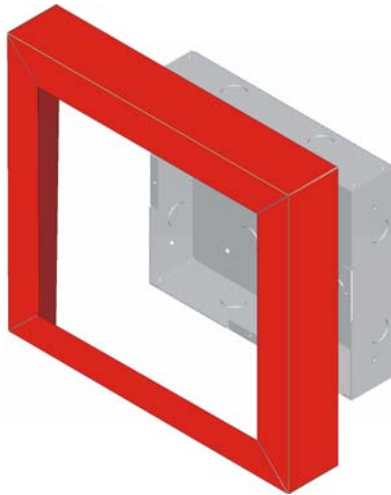

Figure 4-14 Installing Trim Ring
- Place the trim ring over the back box as shown in Figure 4-14.